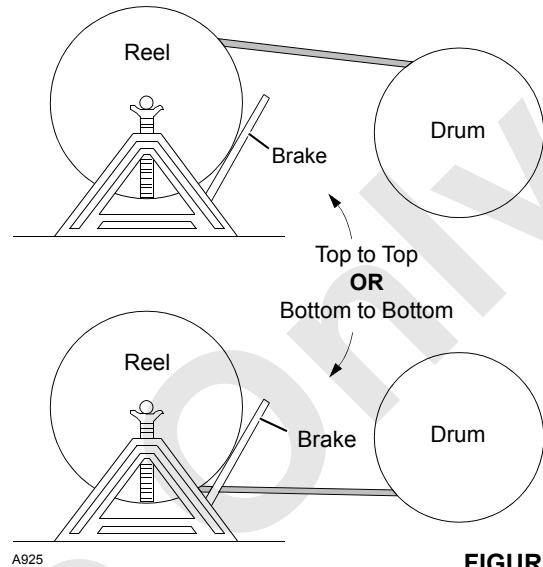

FIGURE 4-47
2. Provide a brake at shipping reel (see Figure 4-47) so wire rope can be wound tightly onto drum.
3. Avoid a reverse bend when winding wire rope onto drum: wind from top of reel to top of drum or from bottom of reel to bottom of drum as shown in Figure 4-47.